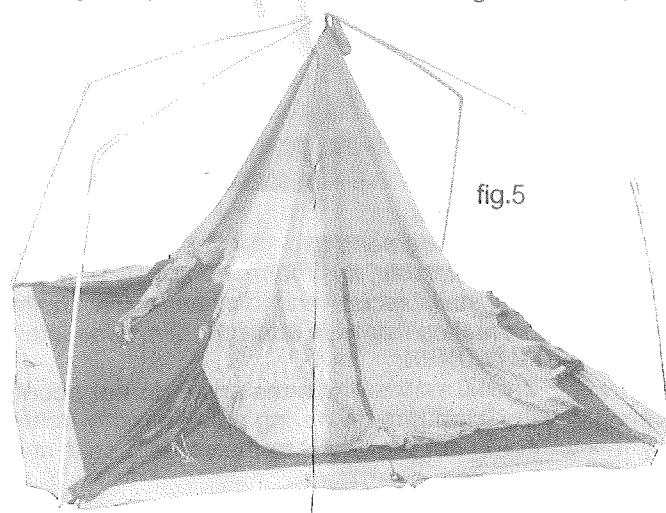

fig.5
6. Raise and center the arch over the fabric and attach the remaining two poles to erect a free standing unit. See fig. 5.